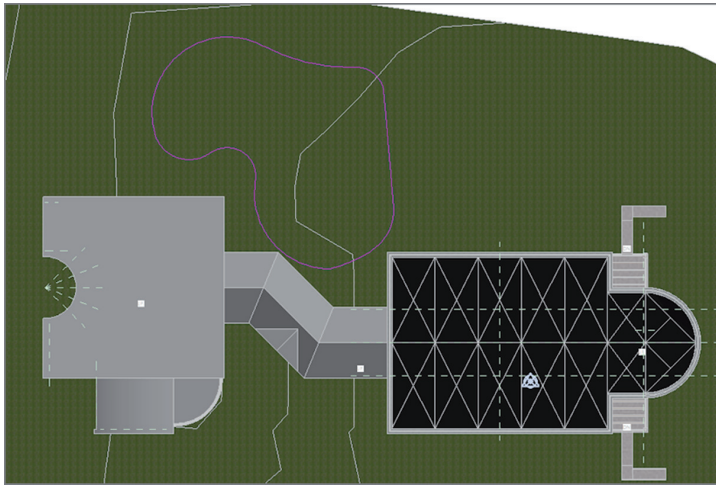

FIGURE BC3.8: Adding a new datum elevation
6. Sketch a perimeter similar to the one in Figure BC3.8.
1. Select the newly formed toposurface, as shown in Figure BC3.8.